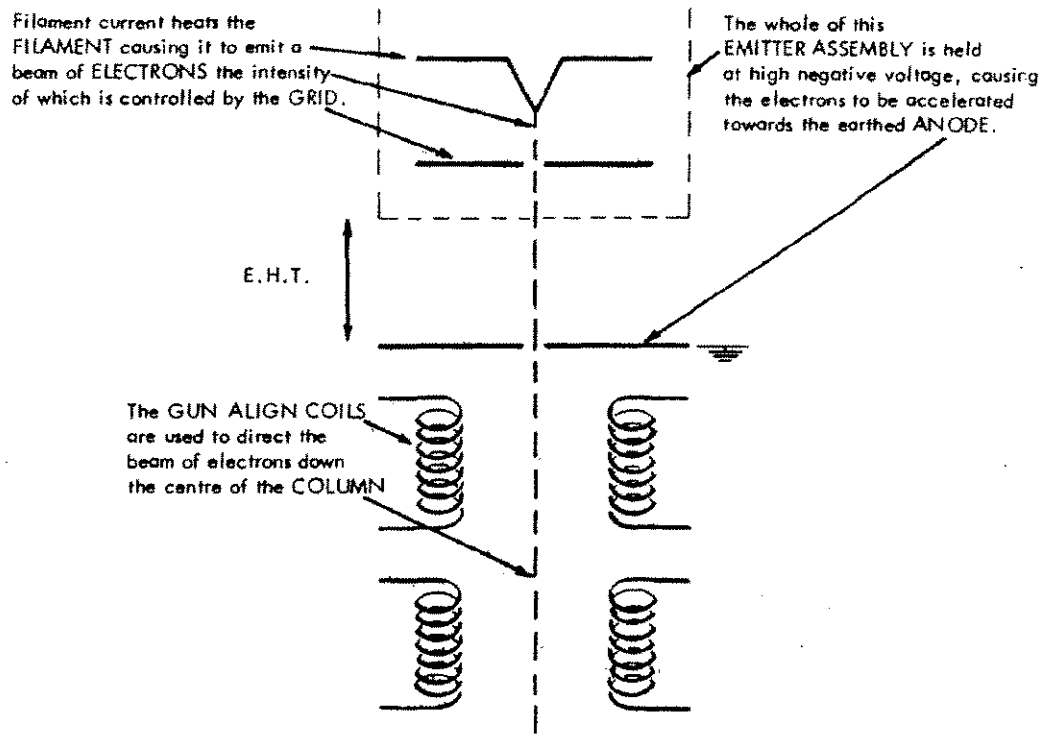

Figure 7.2
- Figure 7.2 The Electron Gun
### 7.2.1 The electron gun (see fig 7.2)